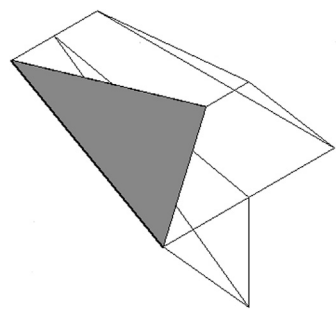
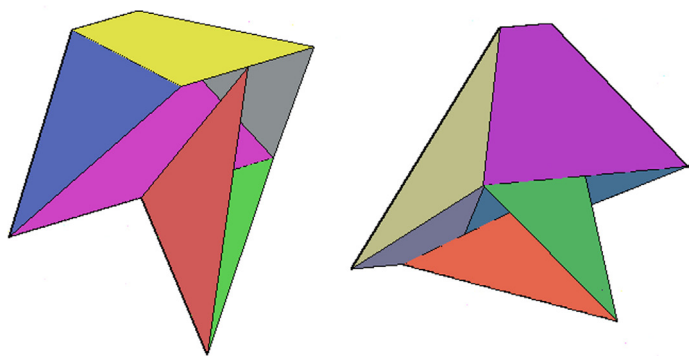

FIGURE 26.21
FIGURE 26.22
Step 3. After three or four clicks (depending on which facet you chose to do first), you should be able to get what is seen in Figure 26.21. Continue covering the other faces, and add color, to get what is shown in Figure 26.22 (viewed from several angles).